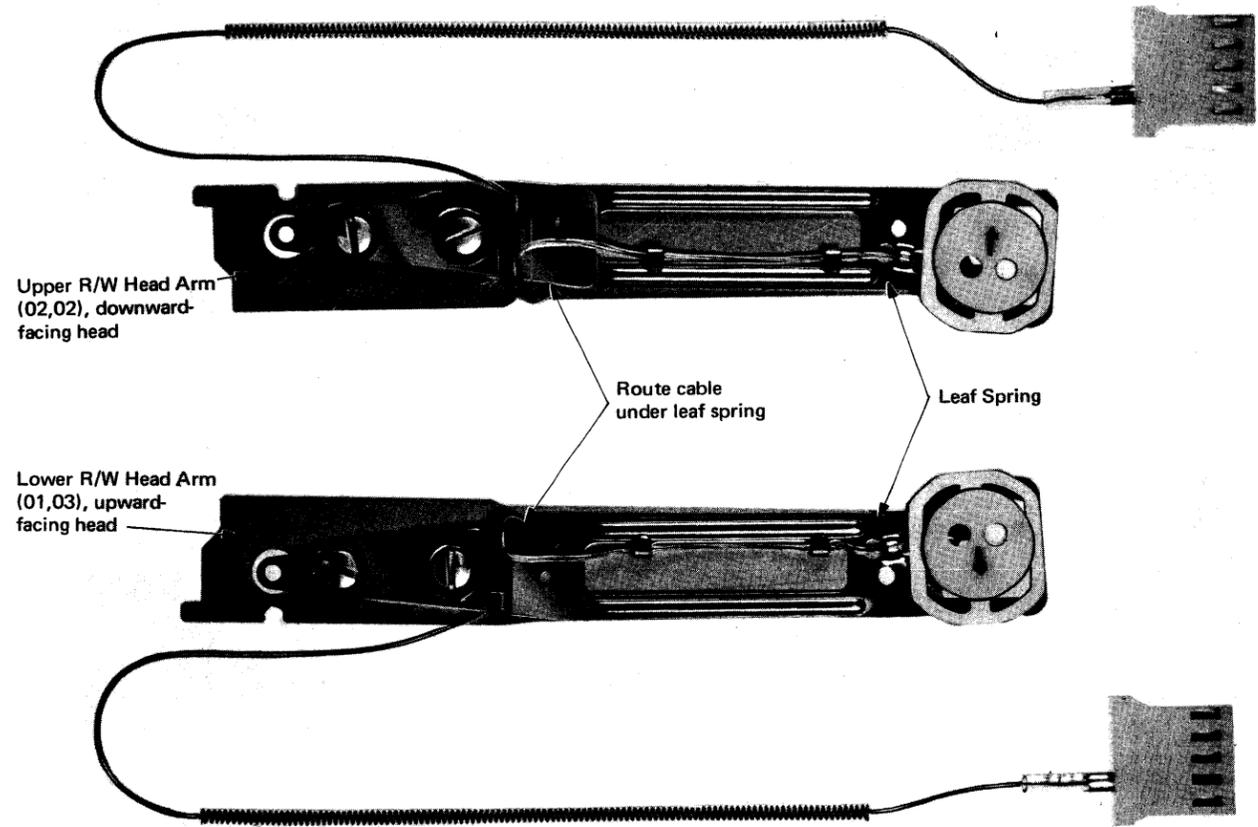

Figure 2-38. Cable Routing in R/W Head Arm [07575]
1. Route the cable in the new R/W head arm as shown in Figure 2-38. Open the leaf spring *not more than 1/5 in. (5 mm)* to insert cable.